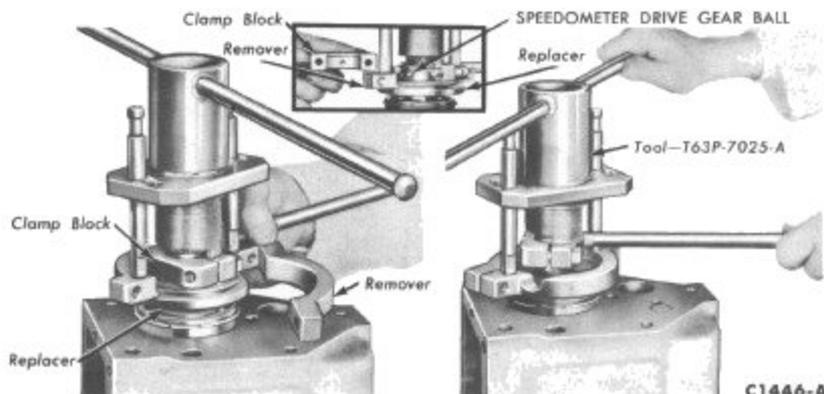

FIG. 56—Installing Output Shaft Rear Bearing
19. Install the large snap ring on the rear bearing. Place the bearing on the output shaft with the snap ring end toward the rear of the shaft. Press the bearing into place with tool T63P-7025-A (Fig. 56). Secure the bearing to the shaft with a snap ring.